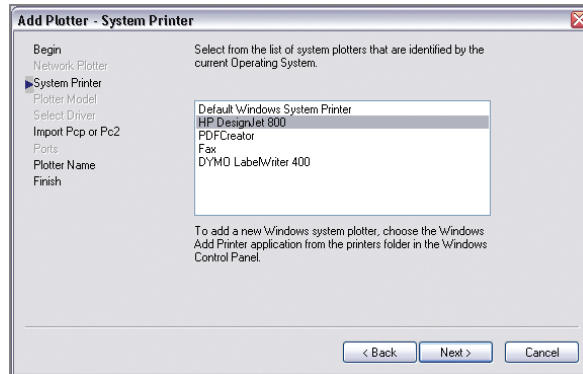

FIGURE 14.3 Selecting a system printer to which the plotter will send data
4. Select the HP DesignJet 800 system printer from the list in the Add Plotter – System Printer dialog box (see Figure 14.3). The listed printers will differ on your computer depending on which drivers you (or your CAD manager) have already installed on your system. Click Next.